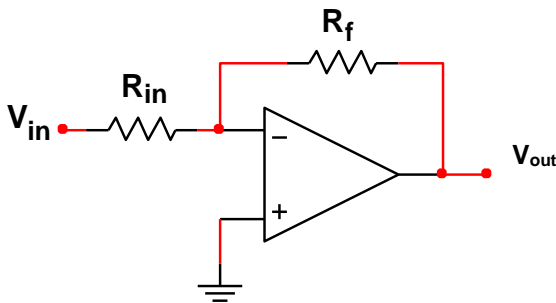

Figure 1 – Inverting Amplifier
**Figure 1** shows an inverting amplifier. From the lab on DC Operational Amplifiers, we know the gain of this amplifier is  $V_{out}/V_{in} = -R_f/R_{in}$ . Instead of using just resistors, we can substitute impedances  $Z_f$  and  $Z_{in}$ , and the gain becomes  $V_{out}/V_{in} = -Z_f/Z_{in}$ .